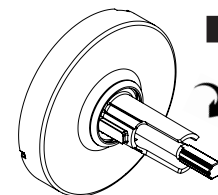

Figure 24
3. Rotate cap clockwise until fully tight (Figure 24).